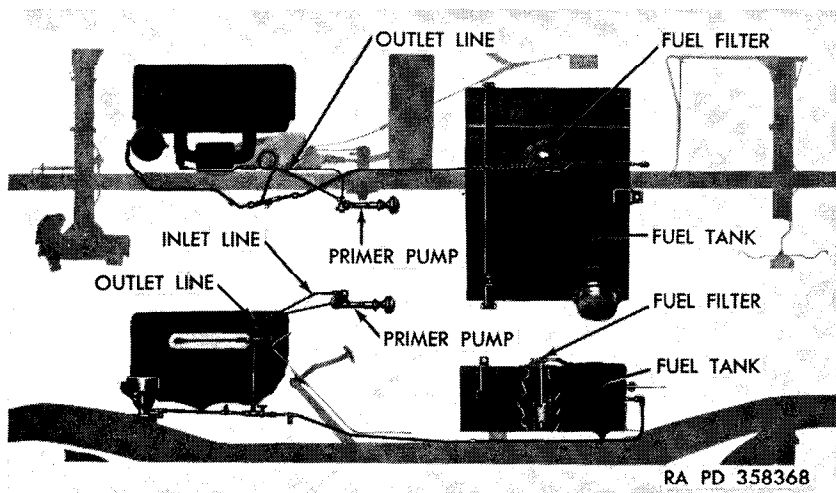

Figure 105. Primer pump system.
f. Fuel Tank (fig. 105). A 13-gallon fuel tank is mounted directly under the driver's seat on the floor of the body. This fuel tank is
g. Primer Pump (fig. 105). The primer pump is of the piston and cylinder type mounted on the left side of the dash, and is used to supply an extra amount of fuel directly into the intake manifold when cold weather makes normal starting process difficult. Removal and installation instructions are contained in paragraph 168.